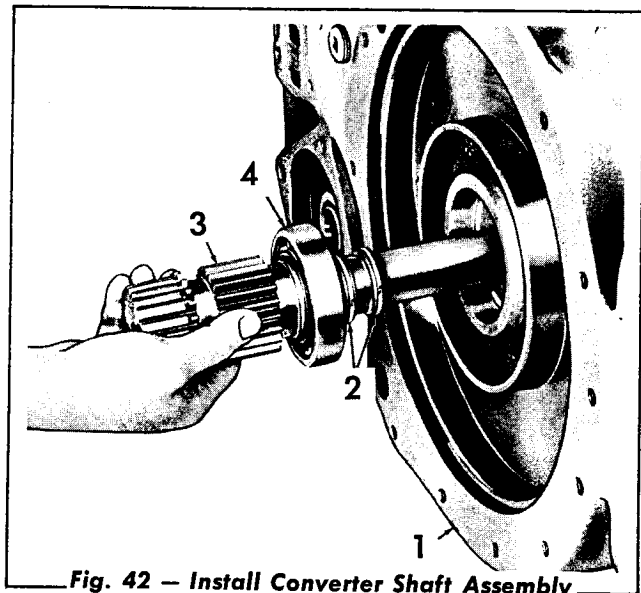

Fig. 42 - Install Converter Shaft Assembly
6. Position the converter housing (Fig. 42) to rest on its left side. Install the hook type seal rings onto the converter shaft. Install the bearing, if it was removed. Install the shaft assembly into the front of the housing and tap on the bearing to seat it in its bore.